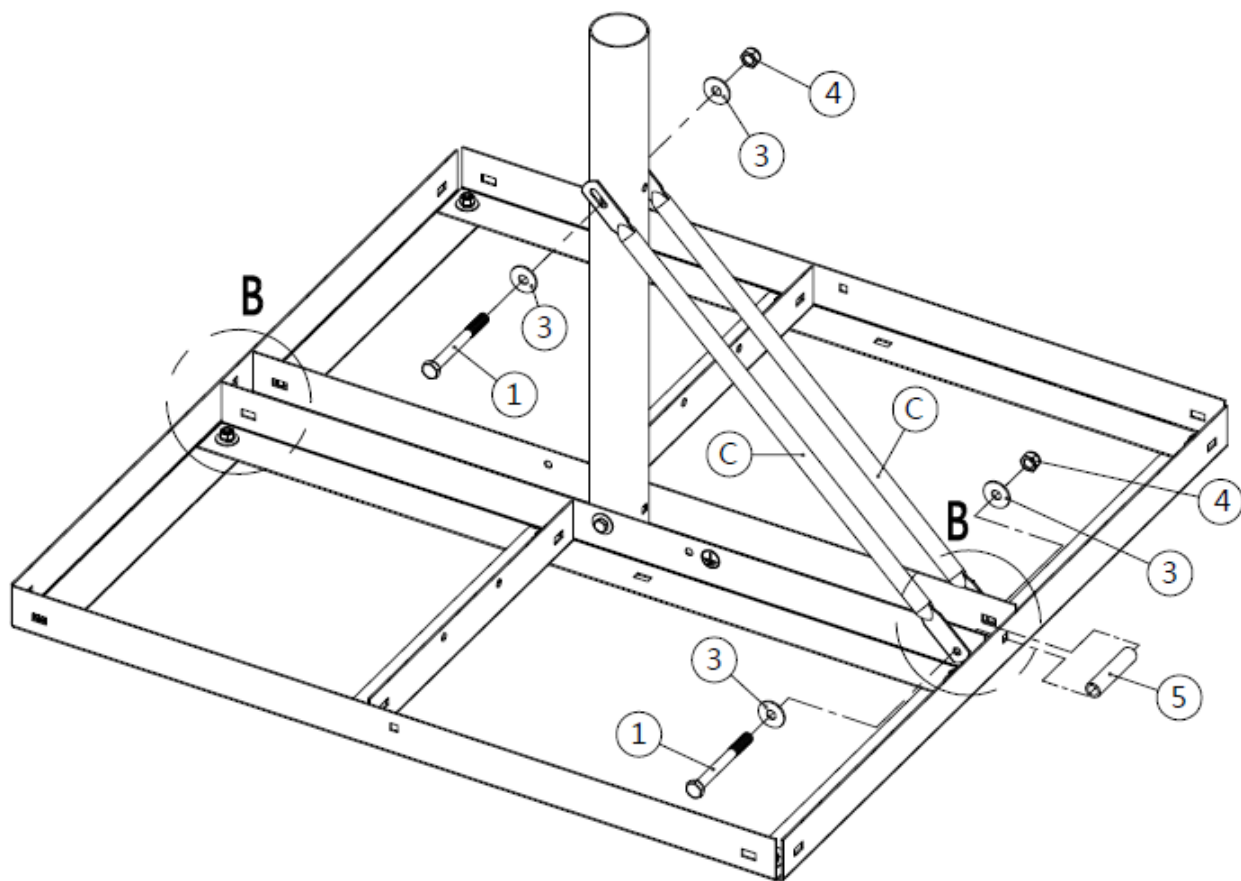

Figure 31: Installing the first two side supporting rods
4. Assemble the first set of two side supporting rods (C) to secure the mast pole to the base. The supporting rods are secured to the mast pole using a hex-head cap screw (1), two washers (3) and a nylon nut (4), as shown in Figure 31.
For the base, remember to insert the bush (5) between the two side support rods, and then thread the hex-head cap screw (1) through the bush and secure it using two washers (3) and a nylon nut (4) as indicated in Figure 31.